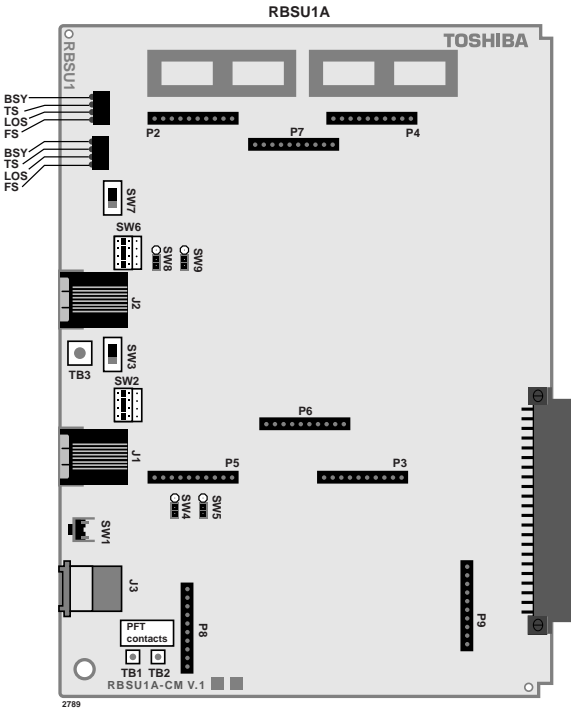
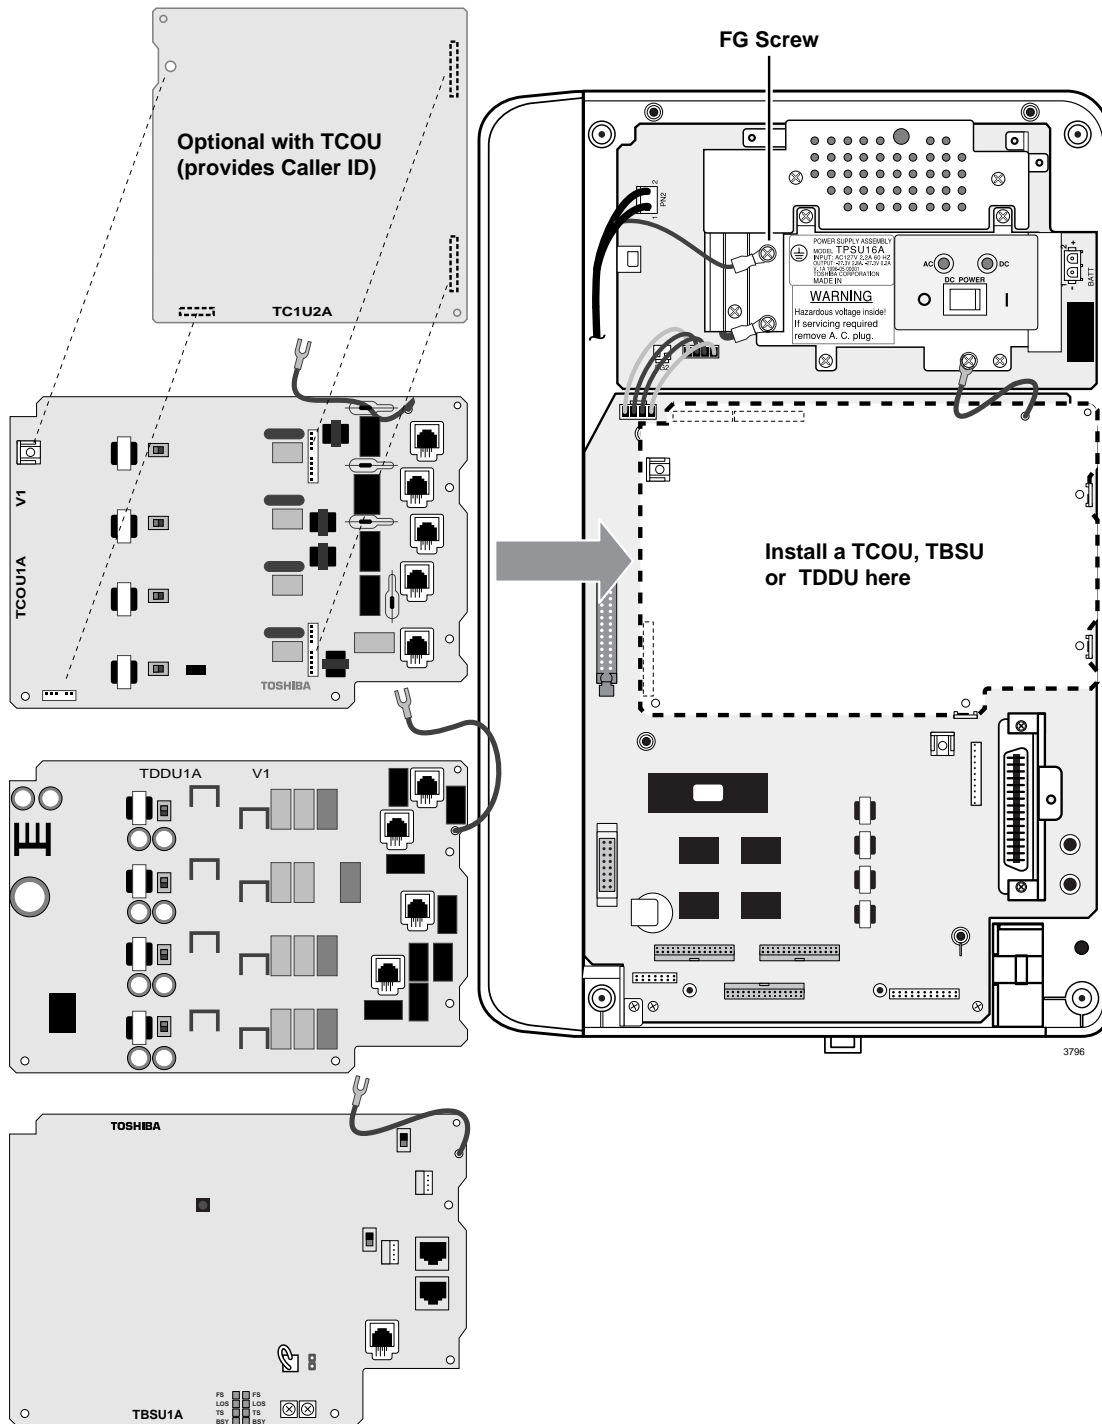
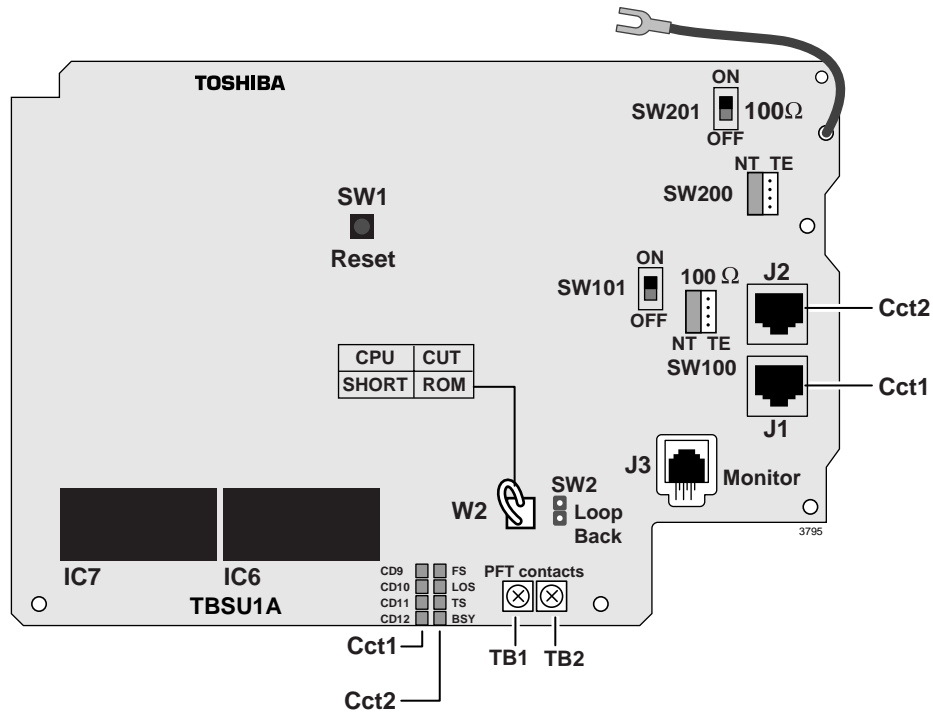
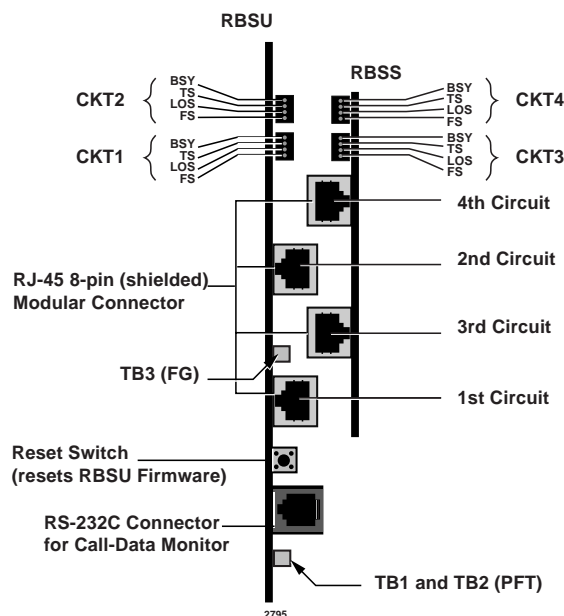

Figure 14-14 RBSU PCB
Figure 14-17 Installation of TBSU into DK40i
Figure 14-18 TBSU Switch Layout
Figure 14-19 Location of LEDs and Connectors
RBSU/RBSS switches, jumpers, and connectors are shown in Figures 14-14 and 14-15 on Page 14-21 and described in Table 14-8.
- Set all option switches and jumpers on the TBSU, RBSU, and RBSS PCBs before plugging the RBSS onto the RBSU or inserting the RBSU into the system. RBSU/RBSS switch/jumper information and locations are shown in Figures 14-14, 14-15 and Table 14-8. TBSU switch/jumper information is shown in Figure 14-18 and Table 14-10.
After setting the switches and jumpers and installing the plug-on PCBs as described in the preceding paragraphs, the RBSU/RBSS PCBs can be installed in the appropriate cabinet slots. Refer to RBSU/RBSS Capacity and Cabinet Slot Information on Figure 14-18. After the RBSU/RBSS is installed in the DK424 cabinet or DK40i Expansion Unit, the status LEDs and connecting jacks are positioned as shown in Figure 14-19.
Carefully align the TBSU connector pins with P11 and P12 on the DK40i motherboard and install the TBSU into the DK40i Base Unit. Use the two supplied screws to secure the TBSU to the motherboard. Figure 14-17 shows the TBSU mounting on the DK40i and Figure 14-18 shows the TBSU switch layout. Table 14-10 shows the TBSU option switches.
The TBSU and RBSU/RBSS BRI circuit jack is a shielded RJ-45 (8-pin modular) with Transmit (Tx) and Receive (Rx) pin numbers as shown in Figure 14-19. The Tx and Rx pin numbers change when the BRI circuit is configured with TBSU and RBSU/RBSS option switches for TE or NT (Tables 14-8 and 14-10). If the R40S is installed on the RBSU, the PS-1 voltage is carried on the Tx/Rx wires with polarity. (See Table 14-11).
The position of the TBSU BRI and RBSU/RBSS circuit jacks are shown in Figure 14-18 and 14-19 respectively.
TB1 and TB2 are the connecting points that interface a pair of dry contacts that can be used for power failure switching purposes (see Figure 14-19 for the locations). When the DK system (TBSU and RBSU) has power (from AC source or batteries) there is a short circuit across TB1 and TB2. In the event of no power to the DK424, there is an open circuit across TB1 and TB2. The specifications for TB1 and TB2 contacts are:
TB3 is a screw terminal that can be used to connect a ground wire to the RBSU PCB (see Figure 14-19 for the location). This ground enables the RBSU/RBSS to meet Electro Magnetic Compatibility (EMC) requirements. As of Release 4.1, RBSU complies with EMC requirements without grounding TB3 on the RBSU, so it is not necessary to connect a ground wire to TB3.